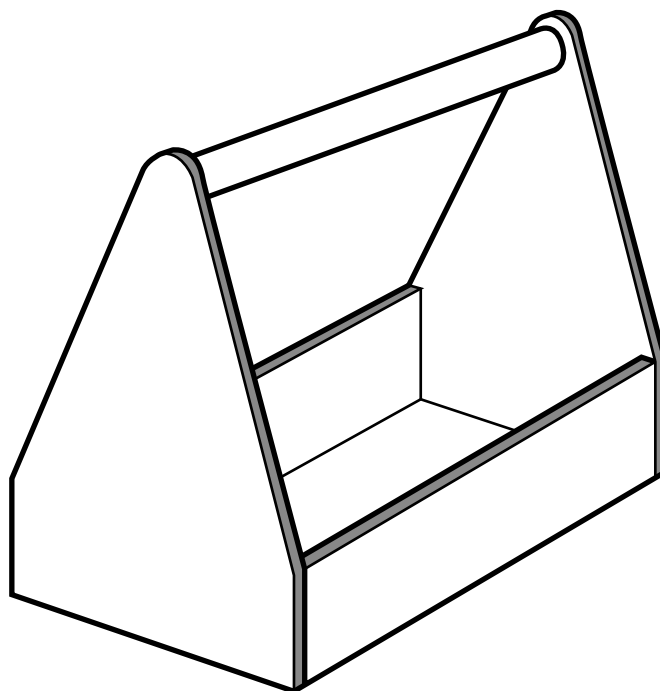

Fig. 8
Fig. 8 shows a holder for art materials.
(a) Give FOUR design requirements for the holder of art materials shown in Fig. 8. Justify each requirement.
- (b) Describe TWO examples where ergonomics has influenced the design of the holder of art materials shown in Fig. 8.
- (e) (i) State a SUITABLE SPECIFIC MATERIAL for the holder of art materials shown in Fig. 8. Give TWO properties or characteristics that make the material suitable for this use.**
- (ii) Describe, in detail, how the holder of art materials shown in Fig. 8 would be manufactured as a batch of 100. Include details of any jigs and formers used. Use a flowchart and/or annotated diagrams to support your answer.**